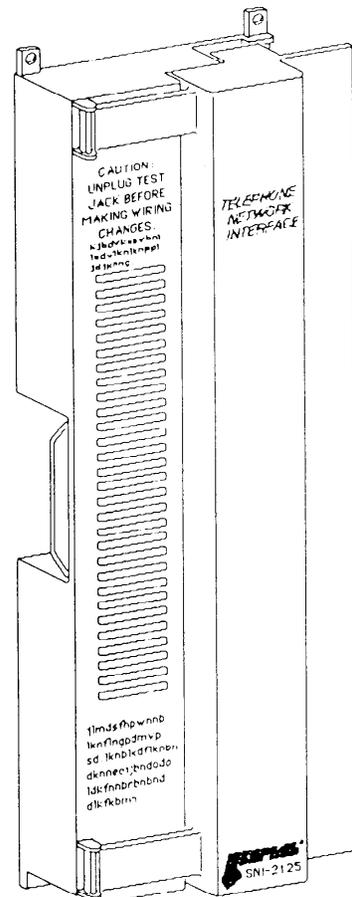

Fig. 1—SNI-2125 outside view
**1.03** The Keptel SNI-2125 N.I.D. unit (Figure 1) provides a discrete and recognizable demarcation point mandated by local commission rulings or business strategies facilitating a physical separation between Telco network facilities and customer or vendor premise wire. It also provides the means for a customer or vendor quick test for a provisioned circuit.